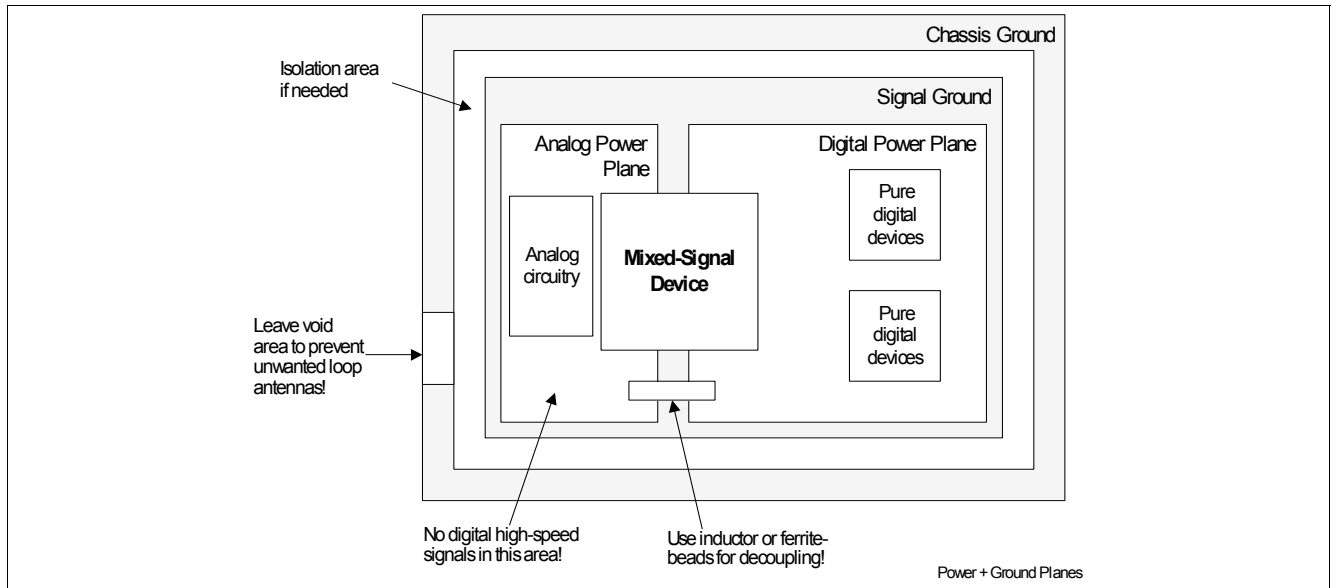

Figure 18 Analog Power Plane
- Divide the +3.3 V and the +1.5 V power plane into a minimum of two sections (as shown in Figure 18) to separate the digital (VDD15, VDD33) from the analog power supply (VDD15A, VDD15B, VDD15AB, VDD33AB).